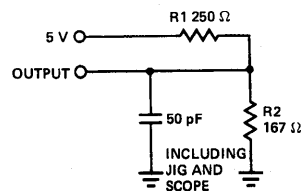

Figure 1a
5. See *Figure 1a* for all switching characteristics except tHZ.